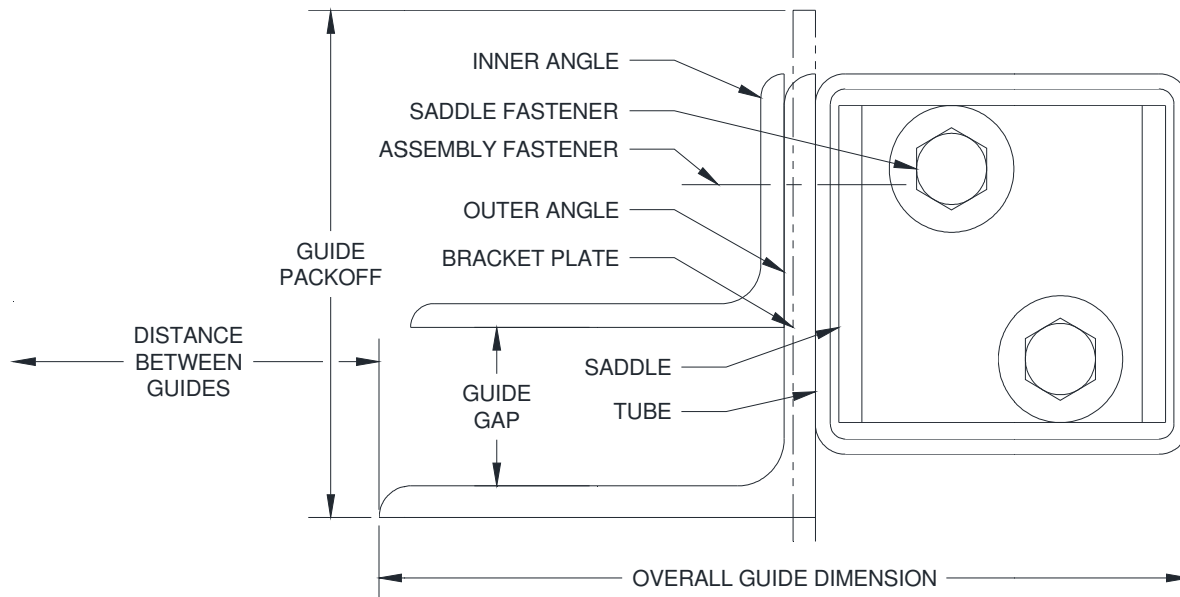

Figure 5.10 – Between Jambs Two-Angle Guide Mounting to Tubes
3. Determine where the fascia of the door will be located with respect to the header/lintel (if one exists) and the jamb. See **Figure 5.10**.